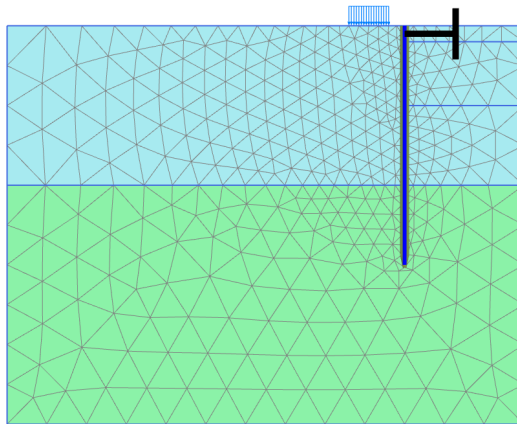

Figure 2.7 The generated mesh
-  View the mesh. The resulting mesh is displayed in Figure 2.7.